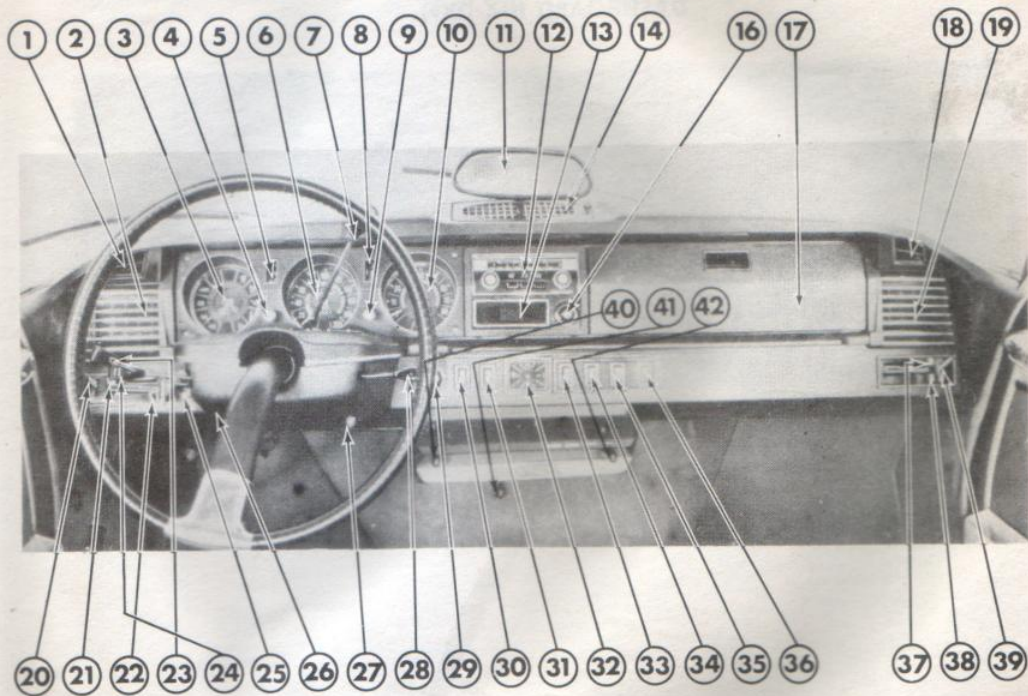
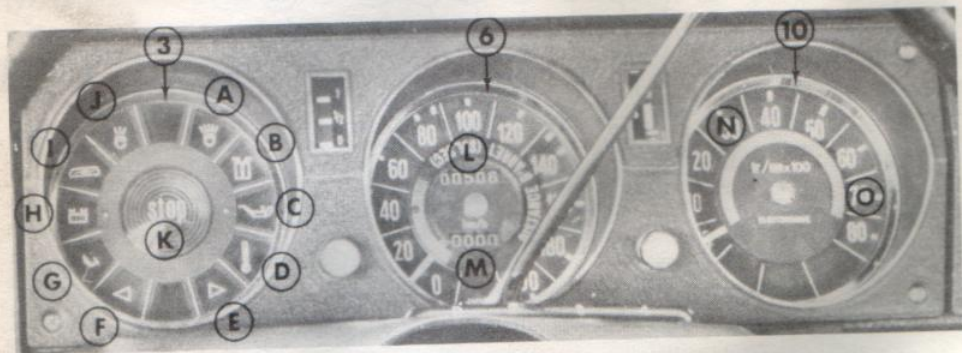
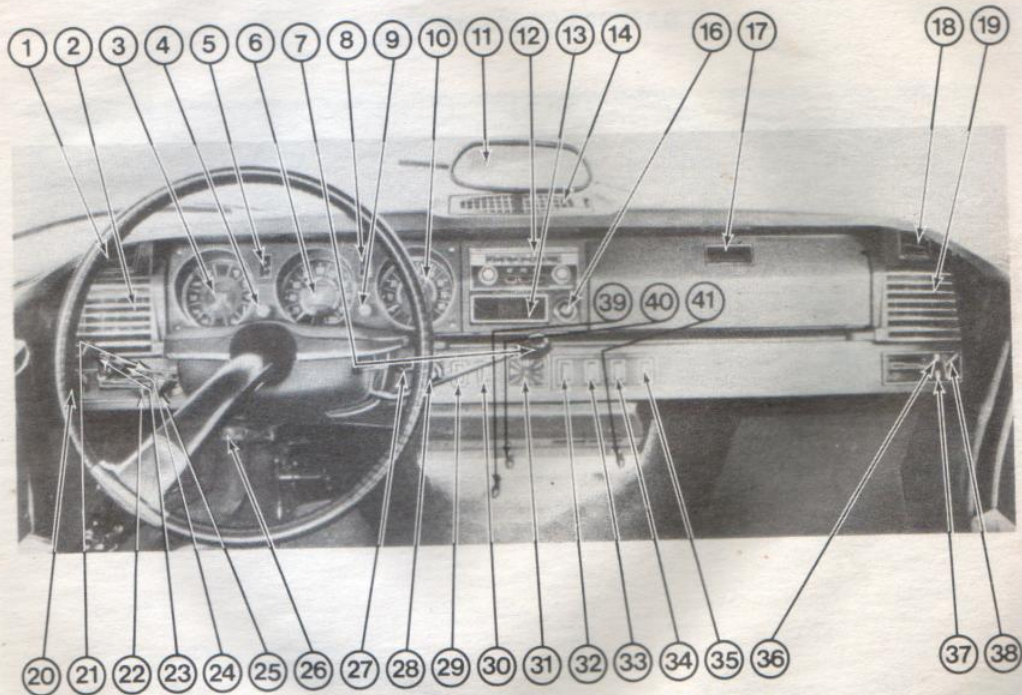
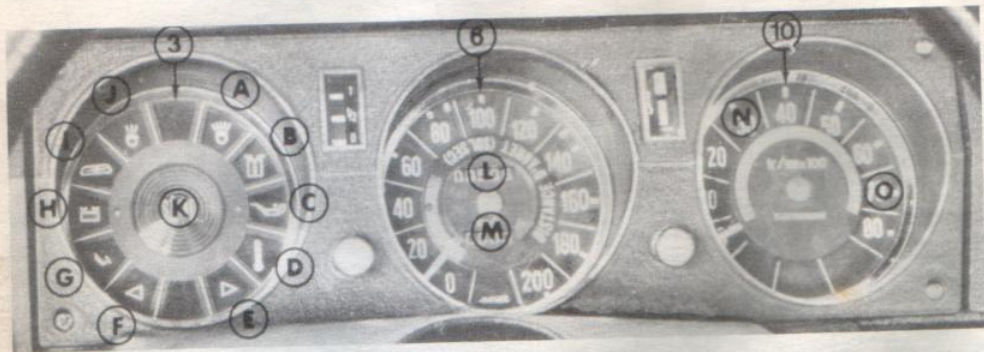

fig. 13
fig. 14
fig. 15
fig. 16
The limits of the range corresponding to 1st, 2nd and 3rd gear are indexed on the speedometer dial by orange reference marks (see 6 Fig. 14-Fig. 16).
If the hydraulic pressure controlling either the front or the rear brake circuits becomes insufficient, the red indicator B of the Central Indicator Dial 3 (Fig. 14-Fig. 16) lights up as well as the red "STOP" indicator K and will remain lit until corrected.
- On DX-DJ-DXF-DJF Models, if the pads of the front disc brakes are worn beyond normal serviceability, the yellow indicator G of the Central Indicator Dial 3 (Fig. 14-Fig. 16) lights up and stays lit until the pads are replaced.
An additional Test Switch 4 (Fig. 13-Fig. 15) enables you to check at any moment the functioning of the red warning indicators B, C, D and K on the Central Indicator Dial.
To avoid any lapse of memory contributing toward grave errors of estimation, the speedometer 6 (fig. 14-fig. 16) is equipped with an indicating dial marked "STOPPING DISTANCE (DRY ROAD) FT." This dial rotates with the speedometer needle. As the speed of the car increases, three numbers—250-500 and 800 become visible successively. These numbers express in feet, the total stopping distance required on a dry road, for that particular speed which the speedometer needle is pointing to.
DASHBOARD (DX-DXF)—fig. 13-fig. 14.
3. Central Indicator Dial (Detail—fig. 14-fig. 16)
6. Speedometer with odometer and trip mileage register (Detail fig. 14.)
10. Electronic Tachometer (detail fig. 14)
To do this, push the lever forward and lock it in this position by pushing the lever up. After the engine has started, **DO NOT FORGET TO RESET THE LEVER 27 (fig. 13) at its initial position before shifting.**
At the SECOND POSITION the innermost headlamps (high beams) are added so that all four headlights are operating. In addition a blue indicator (A fig. 14-fig. 16) will light on the control indicator panel. Moving the lever away from the steering wheel will now cancel the "high beams" but the "low beams" and other lights will remain on. This is used when passing opposite traffic. At this position, by moving the lever alternately toward and away from the steering wheel, you can flash the headlights signalling preceding traffic that you are about to over-take them.
When this switch is on, both front and both rear directional lights will flash intermittently as well as the indicators **E** and **F**. (fig. 14-fig. 16)
DASHBOARD (DJ-DJF-DV) fig. 15-fig. 16.
3. Central Indicator Dial (see detail, page 40 item 3).
4. Switch for checking the functioning of the red signals on the Central Indicator Dial. (see detail, page 40 item 4).
6. Speedometer with odometer and trip mileage register (detail fig. 16).